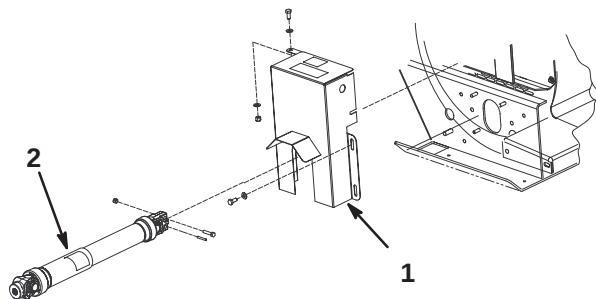

Figure 6
1. Remove the 5 capscrews, 6 washers, and nut securing the belt guard to the blower frame (Fig. 6).
2. Slide the drive shaft onto the traction unit PTO shaft (Fig. 6). Align the mounting holes in each shaft and slide them together.
3. Secure them with a roll pin and 2 capscrews and nuts (Fig. 6).
- Install the belt shaft guard with the fasteners previously removed (Fig. 6).